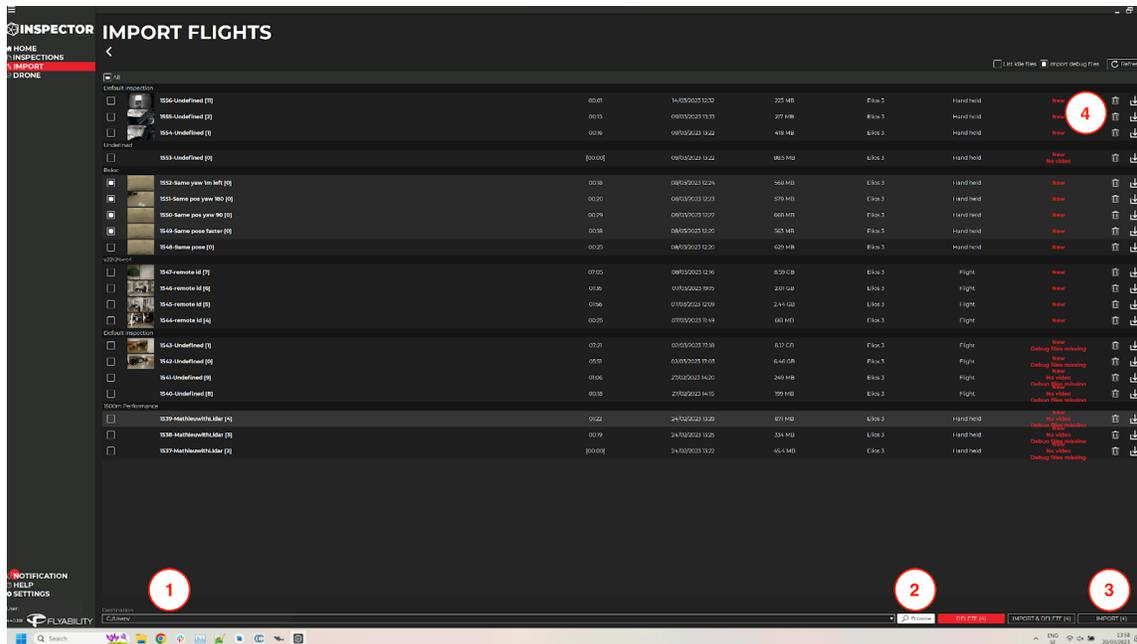

Figure 5.2: Inspector 4 Import Screen after connection - Elios 2
This is the location on your computer to where the flight data of imported flights will be saved, as shown in figure 5.2 as (1). The default destination is `<documents/Inspector>`.
This will list all the flights found in the selected LOG and Video files locations, as shown in figure 5.2 as (2). Inspector automatically matches videos and log files. They must be imported and saved as a project locally before viewing. All flights found will be ordered by mission name and flight number.
Click this button to import one or more flights. You can import several flights by checking the boxes on the left and clicking on "Import", as shown in figure 5.2 as (3). The progress will be displayed on the lower right corner of the window.
Delete the selected flights from the drone's SD card, by clicking on the delete button, as shown in figure 5.2 as (4). Copies previously imported onto your PC will not be affected. CAUTION: Data cannot be recovered once deleted.